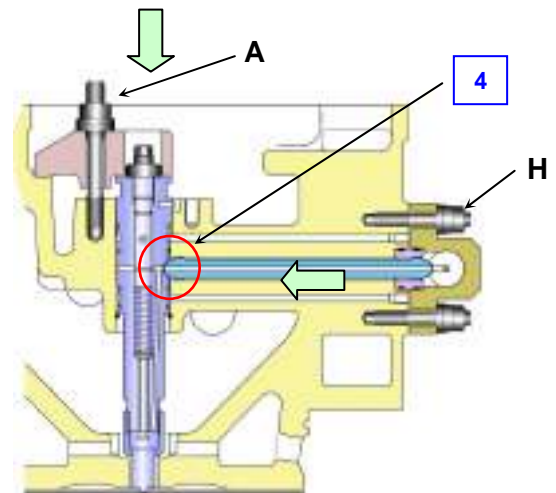

Fig.8 Mounting of Fuel injection valve(연료 분사 밸브 조립)
4. Insert the injection pipe correctly as shown in fig. 8, and tighten the nut (H).